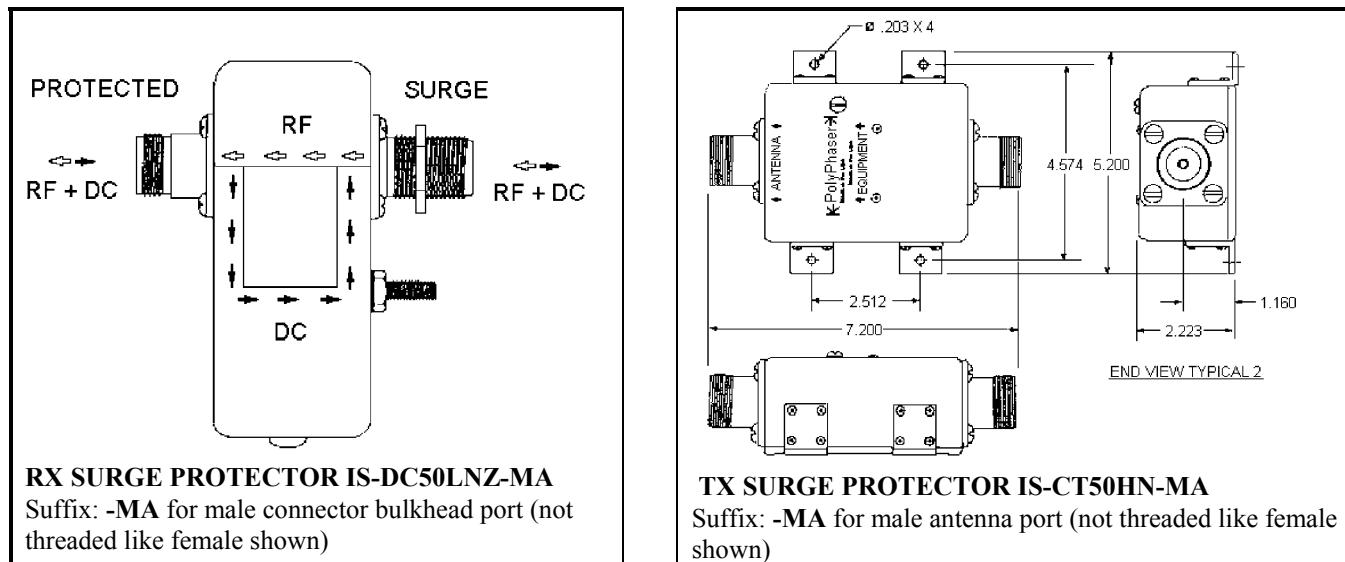
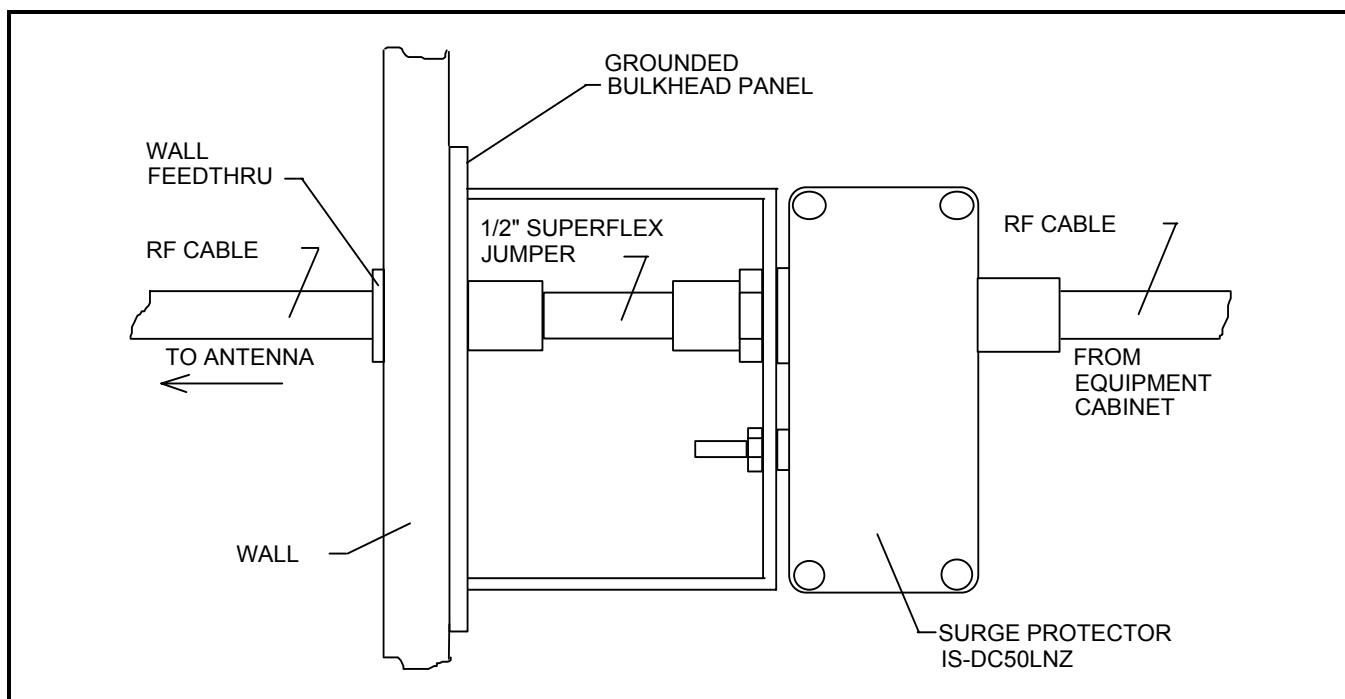

Figure 6-1: Surge Protectors
Figure 6-2: Typical Mounting of the RX Surge Protectors
3. Mount the Receive Surge Protector (IS-DC50LNZ-MA), if not previously installed, to the grounded bulkhead panel, located at the wall feed through where the antenna system enters the building. Other installers (refer to Surge Protector Diagrams in Figure 6-1 and Figure 6-2) should have already installed this panel.
4. Mount the transmit surge protector (IS-CT50LNZ-MA) to the grounded bulkhead panel, located at the wall feed through where the antenna system enters the building. Installers should have already installed this panel. (Refer to Surge Protector Diagrams in Figure 6-1 and Figure 6-2)